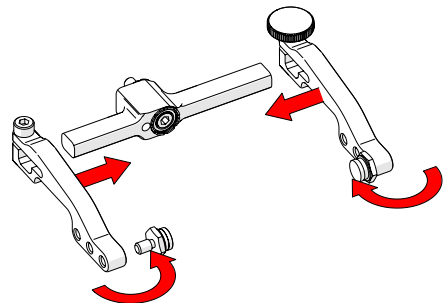

Fig. 96 - Attach arms & move buttons
5. Place the pivot buttons on the inside of the probe holder arms (Fig. 96) using a 3/8 in wrench (Fig. 41).